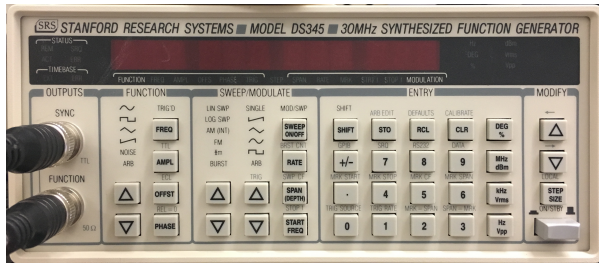

Figure 6: SRS DS345 Synthesized Function Generator
5. **SRS DS345** Synthesized Function Generator (See **Figure 6** and **Instructional Video**)
- To set the DS345 Digital Function Generator (See Figure 6):